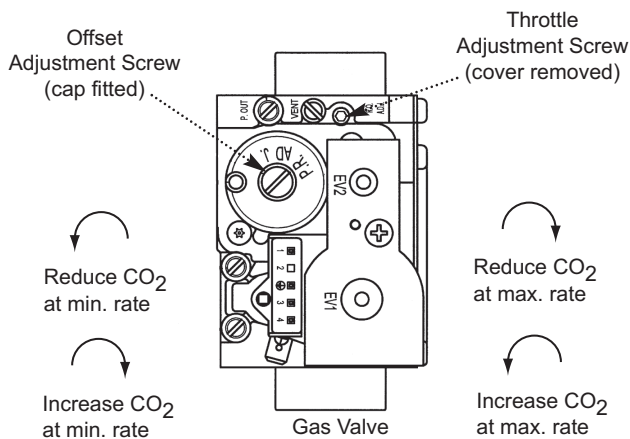

Fig. 57
4. Check the CO₂ is 9.3% ±0.1%. If the CO₂ is incorrect alter the Throttle Adjustment Screw (Fig. 57). Turn the screw anticlockwise to increase the CO₂ or clockwise to decrease (2.5mm hexagon key).
6. Check the CO₂ is 8.9% ±0.1%. If the CO₂ is incorrect alter the Offset Adjustment Screw (Fig. 57). Turn the screw clockwise to increase the CO₂ or anticlockwise to decrease (4mm hexagon key).